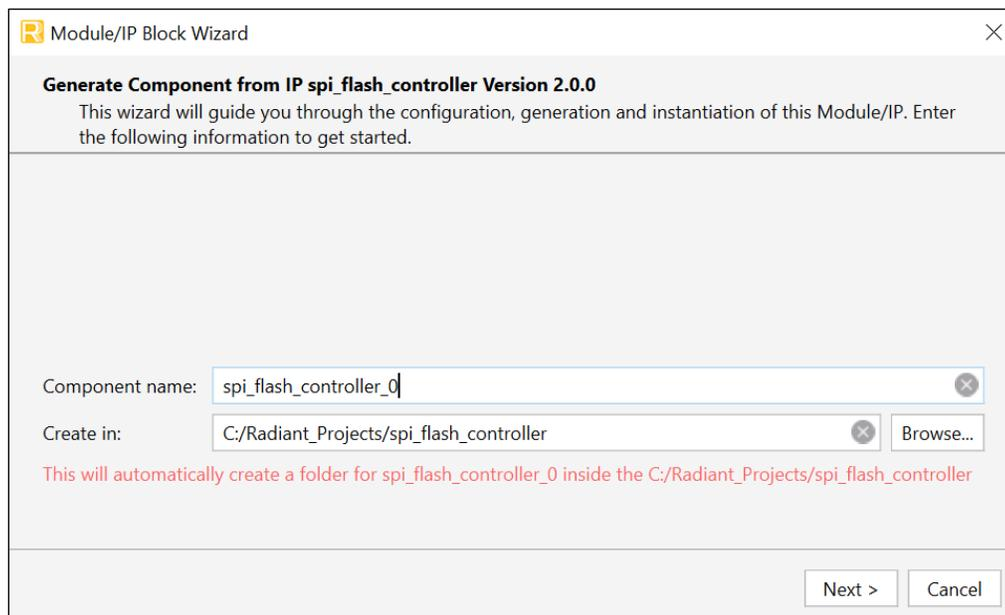

Figure 7.1. Module/IP Block Wizard
2. In the **IP Catalog** tab, double-click **SPI Flash Controller** under **IP, Processors, Controllers, and Peripherals** category. The **Module/IP Block Wizard** opens as shown in Figure 7.1. Enter values in the **Component name** and the **Create in** fields and click **Next**.
- Click **Finish**. All the generated files are placed under the directory paths in the **Create in** and the **Component name** fields shown in Figure 7.1.